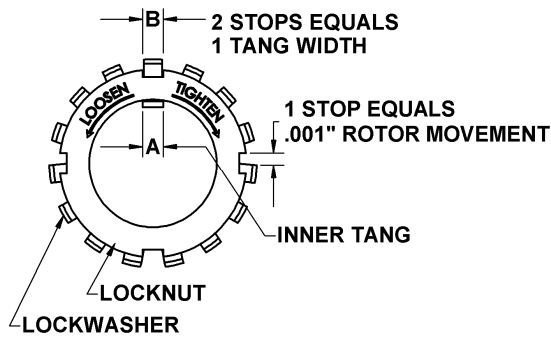

Figure 8 – Locknut Assembly
It is important that the bearing locknuts (24A) and lockwashers (24B) be installed and adjusted properly. Overtightening locknuts can cause bearing failure or a broken lockwasher tang. Loose locknuts will allow the rotor to shift against the discs (71), causing wear. See Figure 8.
- Tighten both locknuts (24B) to ensure that the bearings (24) are bottomed in the head recess. DO NOT overtighten and bend or shear the lockwasher inner tang.
- Tighten the opposite locknut (24A) by hand until it is snug against the bearing (24). Then, using a spanner wrench, tighten the nut the width of one lockwasher tang "B". Tighten just past the desired tang, then back off the nut to align the tang with the locknut slot. Secure the nut by bending the aligned lockwasher tang into the slot in the locknut. The pump should continue to turn freely when rotated by hand.
- Inspect the grease seal (104) for wear or damage and replace as required. Grease the outside diameter of the grease seal and push it into the inboard bearing cover (27) or bracket mount (108) with the lip of the seal inward (towards the pump).
- Attach a new bearing cover gasket (26) and the inboard bearing cover (27) to the inboard head (20). Install the outboard bearing cover (27A) and a new gasket to the outboard head. Make sure the grease fittings (76) on the bearing covers are accessible. Install and torque the bearing cover capscrews (28) to 8 lbs ft (10.8 Nm).